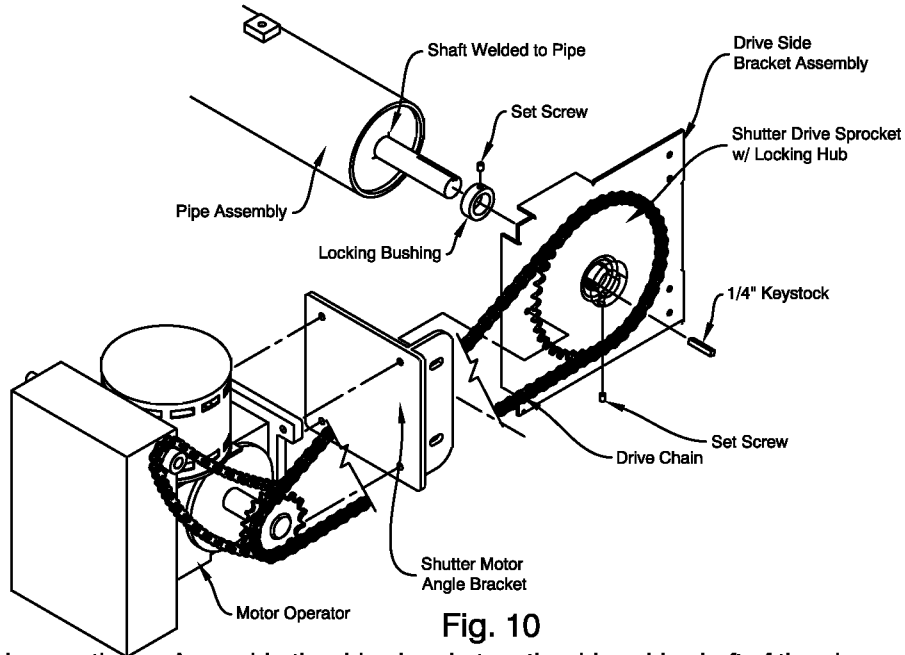

Fig. 10
b) Motor operation - Assemble the drive (governor) bracket on the drive side shaft of the pipe assembly (drive side is the side with the shaft welded to the pipe) as shown in Fig. 10. Align the star gear with the governor and align the drive gear to mesh with the idler gear. Insert the key stock and lock all set screws in place. NOTE: Brackets are shown as right hand drive, left hand drive is opposite. *Doors under 4'-0" high are not supplied with a governor.